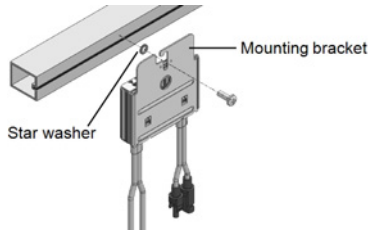

Figure 5: Power optimizer installation and grounding using a star washer
1. Determine the power optimizer mounting location and use the power optimizer mounting brackets to attach the power optimizer to the support structure (See *Figure 5*). It is recommended to mount the power optimizer in a location protected from direct sunlight. For frame-mounted power optimizers follow the instructions supplied with the optimizers, or refer to https://www.solaredge.com/sites/default/files/installing_frame_mounted_power_optimizers.pdf.
- **For mounting on a grounded metal rail:** Use the provided 5/16" stainless steel grounding star washer between the railing and the flat side of the mounting bracket. The grounding washer should break through the anodize coating of the railing to ensure low resistive connection. Apply torque of 9.5 N*m / 7 lb*ft. See *Figure 5*.